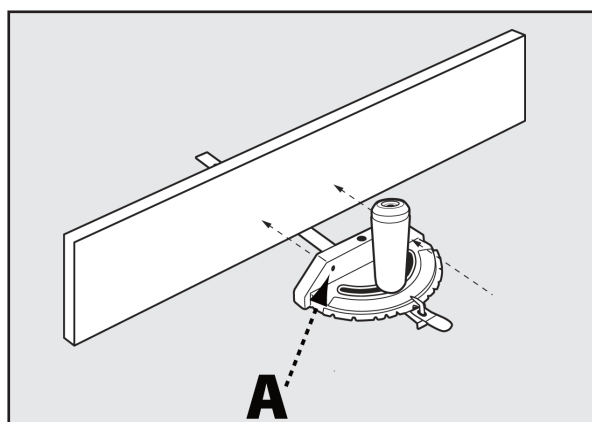

FIGURE 32
This auxiliary wood facing can be fastened to the front of the miter gauge by using two wood screws through the holes (A) provided in the miter gauge body and into the wood facing. See Figure 32. Make sure the screws are long enough to secure the facing, but do not extend all the way through the wood.